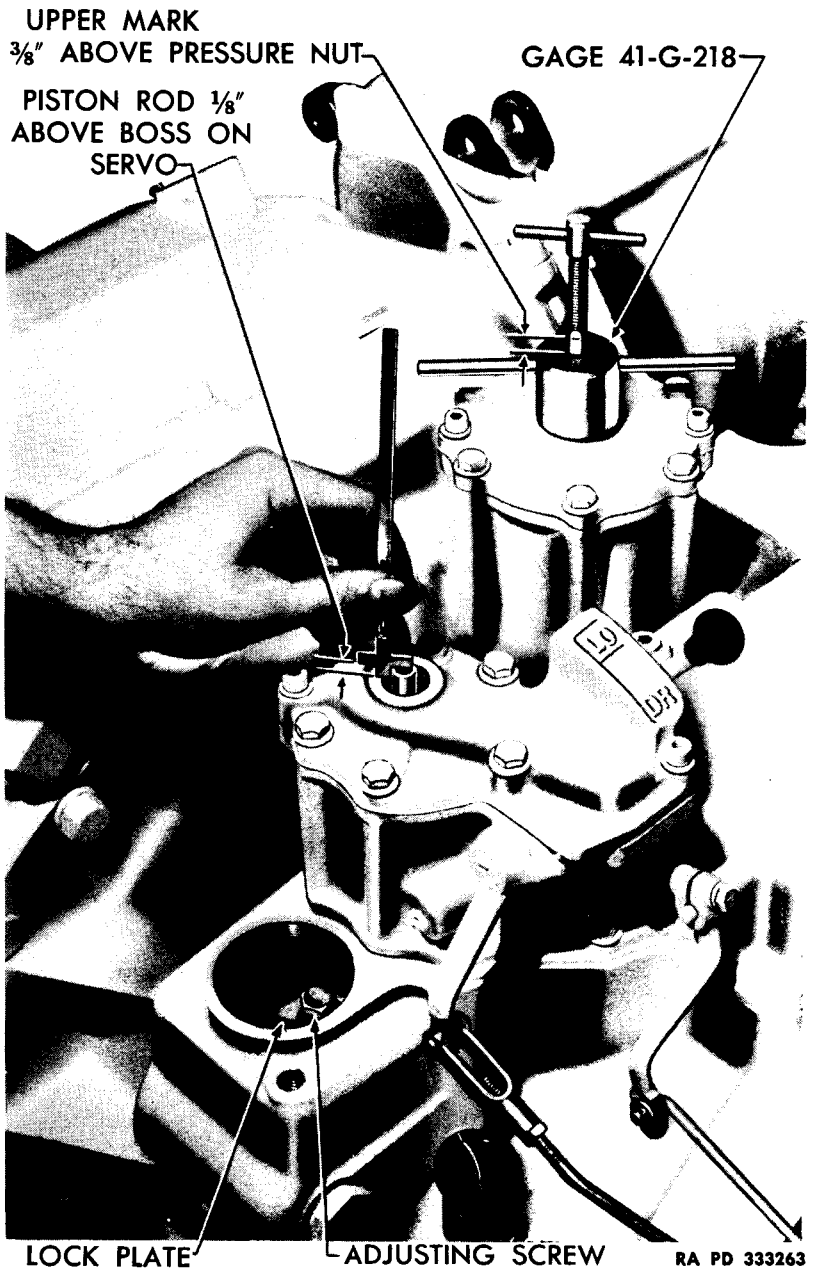

Figure 99 — Adjusting Reverse Band
(2) **INSTALL ADJUSTING TOOL IN LOW GEAR SERVO.** Remove plug from low gear servo cover and screw in gage (41-G-218) until it bottoms in tapped hole in upper end of low gear servo piston rod. Tighten pressure nut on band adjusting gage until "LO" mark on gage is flush with top of pressure nut (fig. 99).
(5) **ADJUST LOW GEAR BAND.** Swing back lock plate (fig. 99) which keeps the low gear band adjusting screw from turning, and tighten adjusting screw. Continue tightening adjusting screw until
(3) **ADJUST REVERSE BAND AND INSTALL PLUG.** If reverse band requires adjustment, remove reverse band adjusting plug and copper gasket from top of transfer unit case (fig. 99). Lift up lock plate that keeps reverse band adjusting screw from turning, and tighten adjusting screw until servo piston rod is $\frac{1}{8}$ inch above boss on cover. Install reverse band adjusting plug and a new copper gasket on transfer unit case.